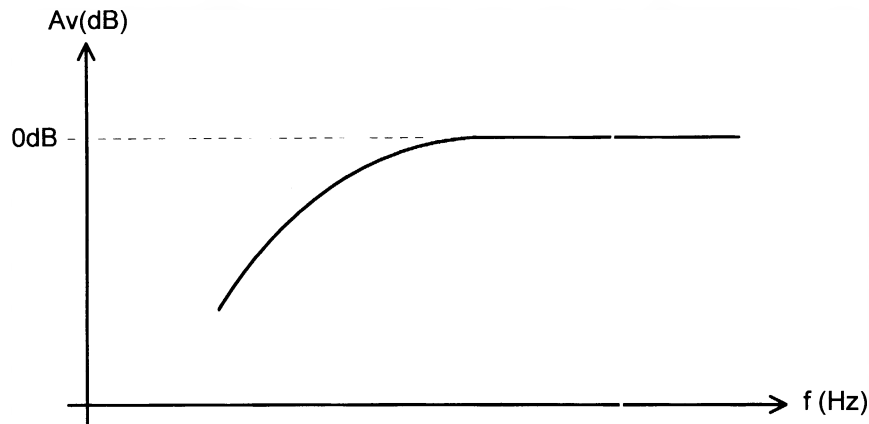

Figure 1
1. Show on the graph in Figure 1 what part of the response the following terms describe: